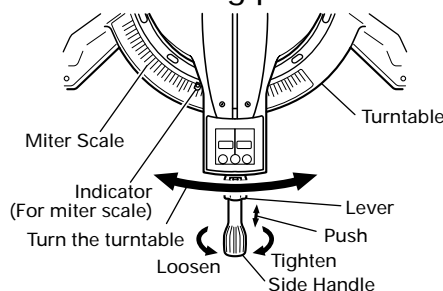

Fig. 24
- (1) Loosen the side handle and push the lever for angle stoppers. Then, adjust the turntable until the indicator aligns with desired setting on the miter scale (Fig. 24).
- (2) Re-tighten the side handle to secure the turntable in the desired position.